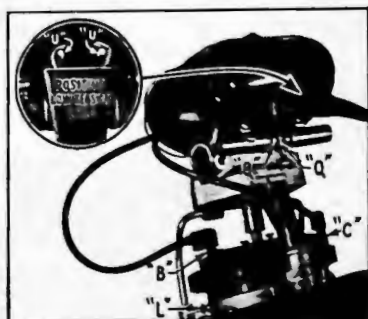

Fig. 9
- 46 Connect positive low tension lead to input terminals of both coils (Figs. 9 and 10).